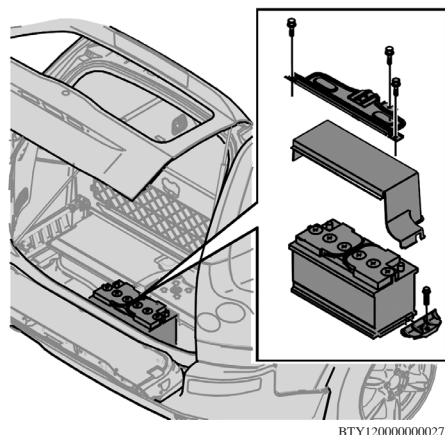

Fig. 1 Battery removal
7. Remove nut securing mounting bracket to floor, **Fig. 1**.
8. Remove screws holding mounting bracket against rear crossmember, **Fig. 1**.
9. Remove battery mounting bracket, **Fig. 1**.
10. Remove protective cover, **Fig. 1**.
14. Remove battery hold down bracket, **Fig. 1**.
6. Install battery protective cover, **Fig. 1**.
7. Install battery mounting bracket and tighten screws, **Fig. 1**.
8. Install battery bracket nut, **Fig. 1**.